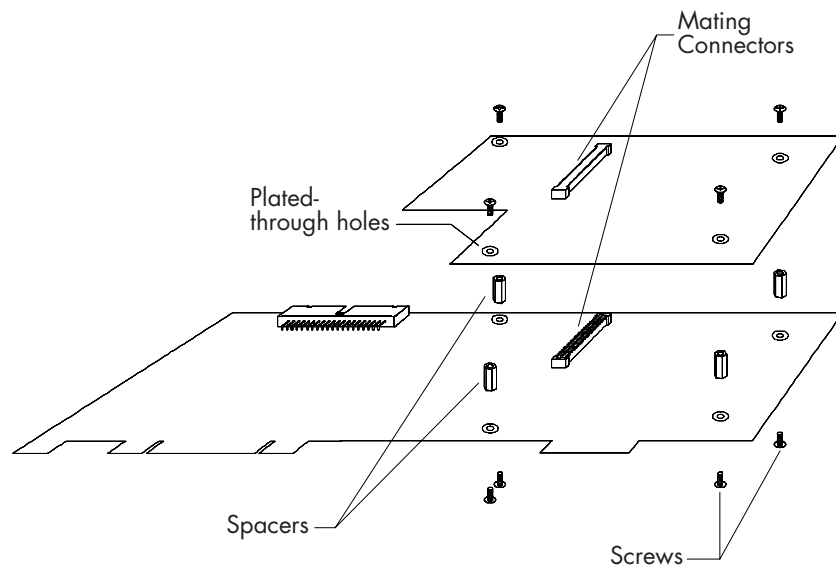
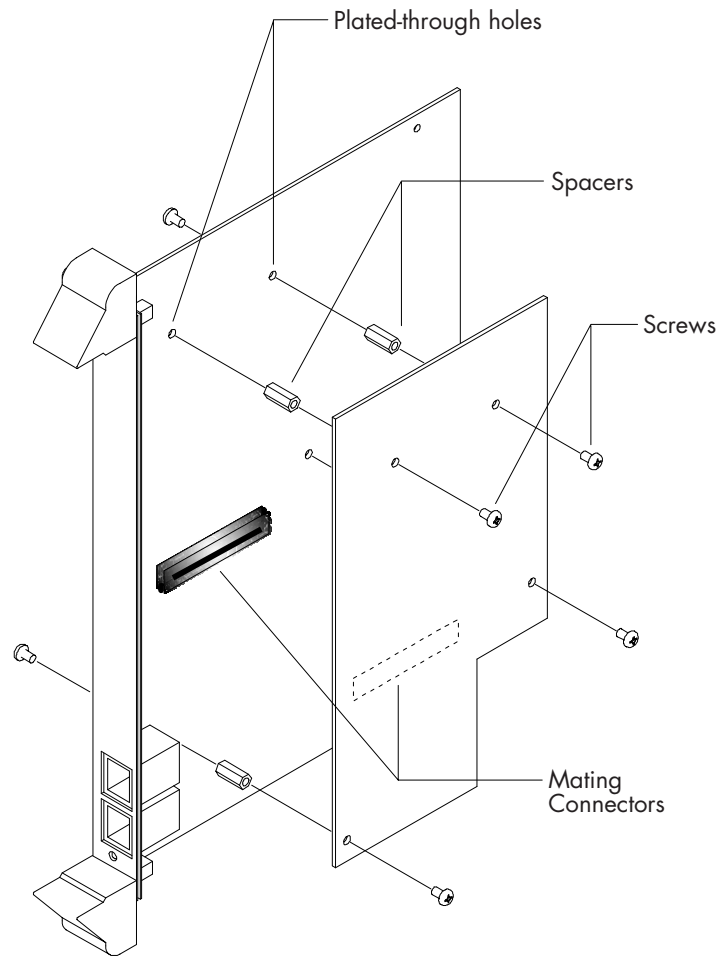

Figure 7. PCI Board: Installing the Daughter Card on the DialFire PTE Adapter
Figure 8. CompactPCI (cPCI) Board: Installing the Daughter Card on the DialFire PTE Adapter
5. Using the screws provided, attach the four spacers to the DialFire adapter, on the side with the connector, as shown in figure 7 (below) and figure 8 on page 38. Be sure to install the spacers on the plated through-holes.
6. Plug the daughter card onto the DialFire adapter (see figure 7 and figure 8). The spacers should line up with the plated through-holes on the daughter card.